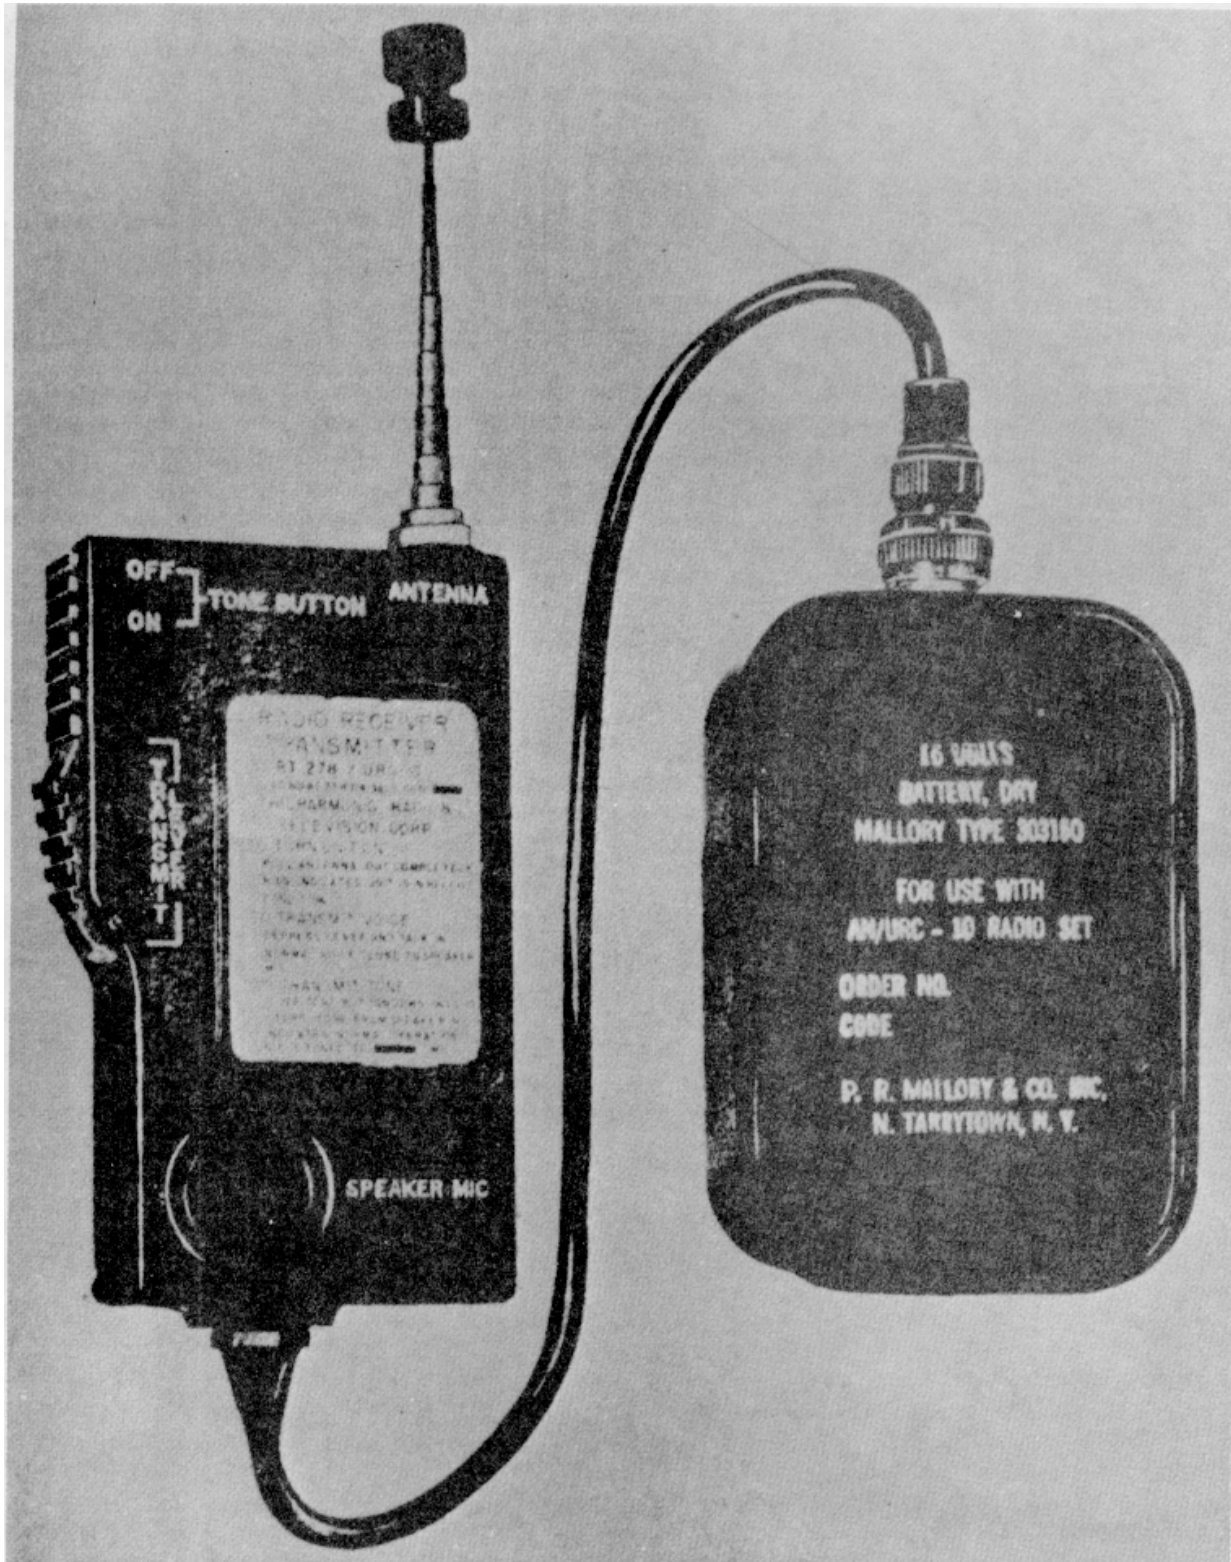

Figure 1-1. Radio Set AN/URC-10 (Receiver-Transmitter RT-278)
Refer to figures 1-1, 1-2, 1-3, and 1-3.1, respectively, for illustrations of the above equipment. Appendixes include the maintenance allocation chart, and illustrated parts lists.
**1-8.** Four encapsulate modules are utilized: Receiver module; transmitter module; audio module; and tone generator module. Interconnections are accomplished by a printed circuit board which provides mating module connectors. The waterproof case is provided with speaker/microphone, antenna (including an ON/OFF switch), a function switch and a tone switch. Battery power is provided through an external battery connected to the radio set by a waterproof cable (RT-278/URC-10 and RT-278A/URC-10, figures 1-1 and 1-2, respectively); or by an integral battery pack (ACR RT-10 and RT-278B/URC-10A) only (figures 1- and 1-3.1 respectively).